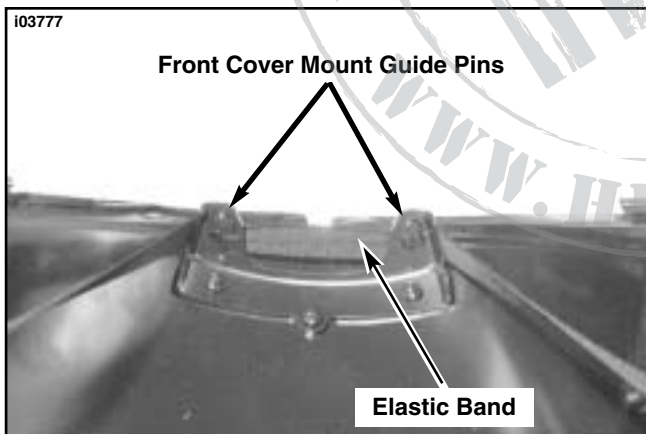

Figure 4. Position Elastic Band Over Guide Pins
12. See Figure 4. Make sure the airbox cover bra nylon side flaps, with the Velcro® strips, are not captured between bra and airbox cover. Stretch bra elastic band towards the inside front of cover and capture it in the space between the inside surface of the airbox cover and the guide pins on the front mounting bracket of airbox cover.